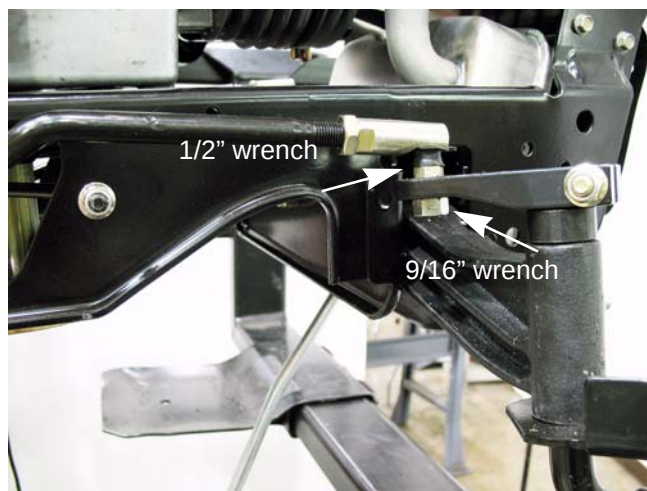

Figure 3.6
4. Remove the nut holding the drag link to the steering block using a 1/2" and 9/16" wrench. See Figure 3.6.